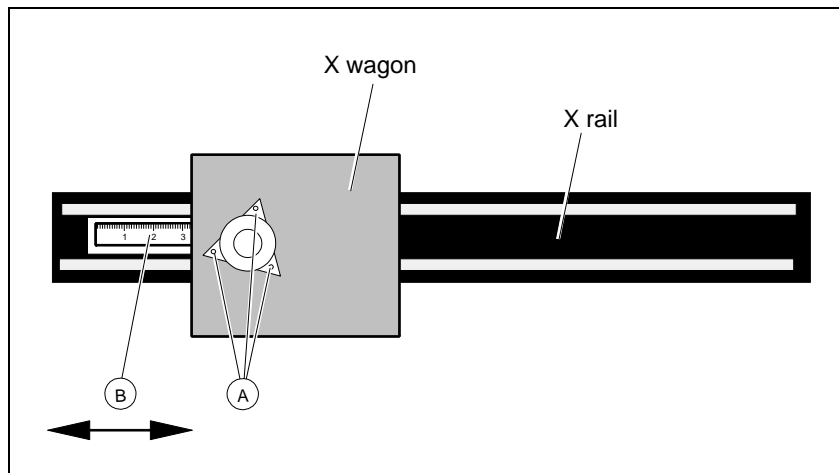

Figure 4-6. Adjusting X cog play
2. Loosen the three motor fixing screws ('A' in Figure 4-6) somewhat.